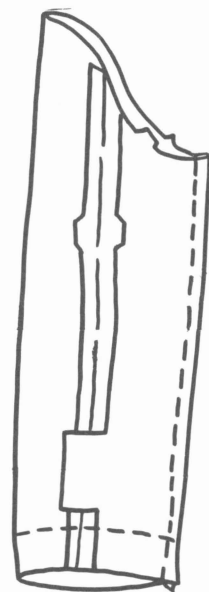

Figure 32. Trim and press open.
3. Clip seam allowance to stitching lines to press seam allowance open above and below vent extension. Press vent extension along the fold line in the direction the pattern calls for. If vent extensions are wider than 1 inch (2.5 cm), trim away excess (Figure 32).